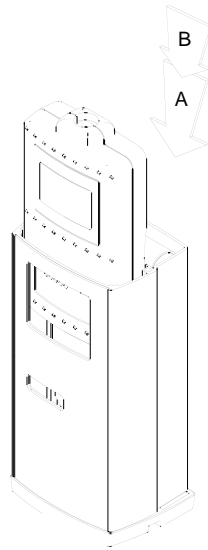

Figure 4b
2. Carefully slide the radio modem into the casing making sure that the front side of the radio modem is pointing in the same direction as the front panel of the SATEL-321 casing and let the radio modem slide softly in until it reaches the bottom position (see Figure 4b, arrow B).
3. Push the radio modem gently in to make the connection between the D-connectors located on the inside of the SATEL-321 casing and on the bottom cover of the radio modem (see Figure 4b, arrow A).